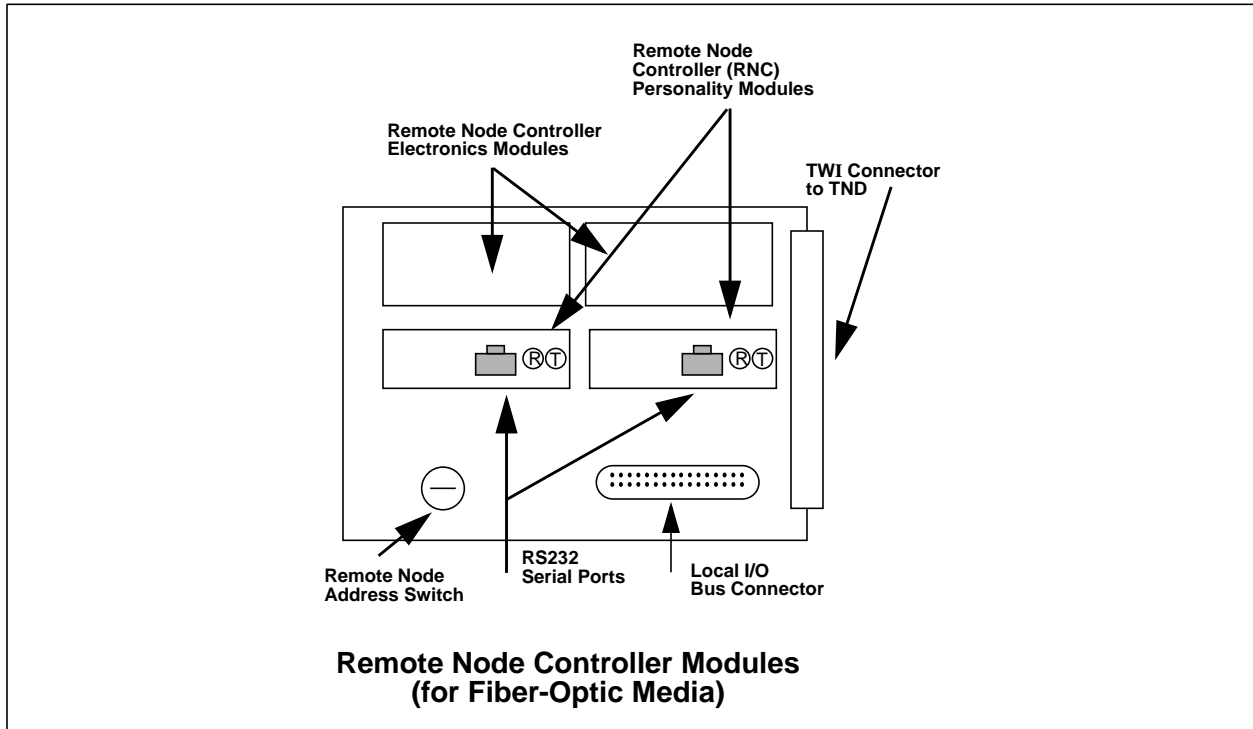

Figure 27-6. Remote Node Controller (RNC)
- Remote Node Controller (RNC) Module - Provides a point of attachment for remote I/O media used to transfer messages between the remote node and the MAU. There are only two Remote Node Controller Modules per remote node (one primary, one backup), regardless of the number of cabinets at the node. The module translates messages from the remote I/O bus into local I/O bus cycles that can be directed to as many as eight branches of local I/O modules (refer to Figure 27-6).